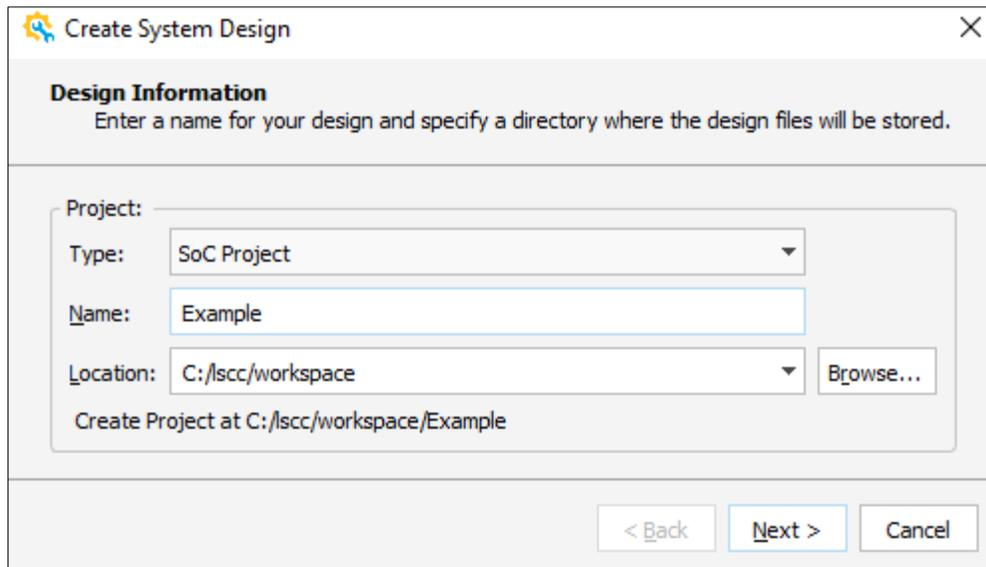

Figure 2.28. Create System Design – Design Information Wizard
1. Choose **File** >  **New Design** from the Lattice Propel Builder Menu bar. The Create System Design wizard (Figure 2.28) opens.